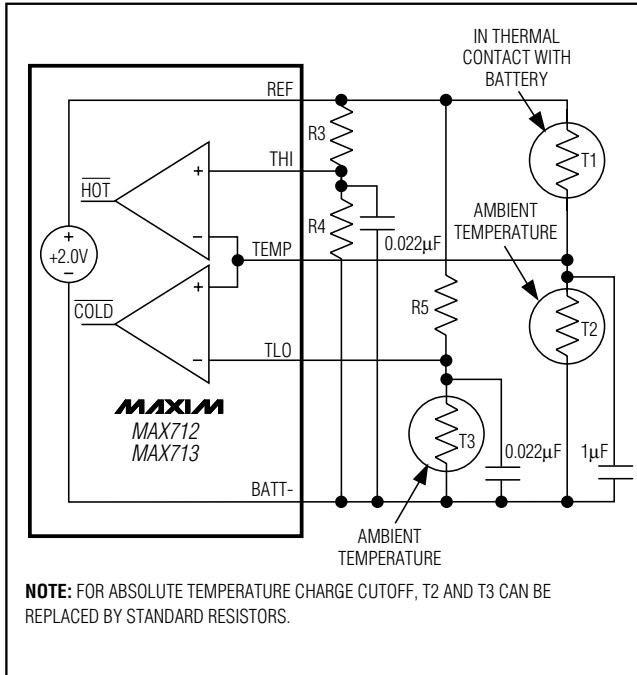
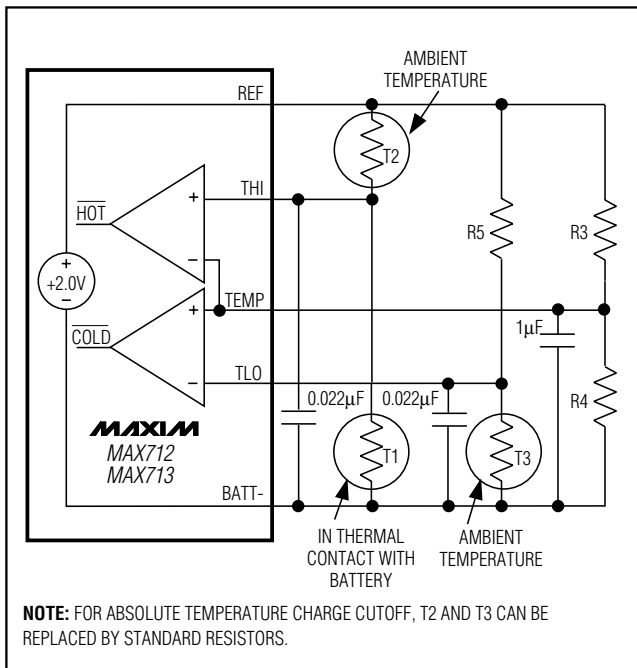
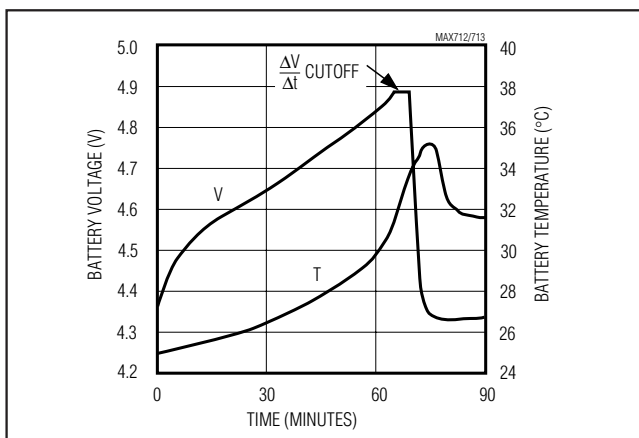

Figure 9a. Temperature Comparators
Figure 9b. Alternative Temperature Comparator Configuration
Figure 13. 3 NiMH Cells Charged with MAX712
Figure 9a shows how the MAX712/MAX713 detect over- and under-temperature battery conditions using negative temperature coefficient thermistors. Use the same model thermistor for T1 and T2 so that both have the same nominal resistance. The voltage at TEMP is 1V (referred to BATT-) when the battery is at ambient temperature.
Some battery packs come with a temperature-detecting thermistor connected to the battery pack's negative terminal. In this case, use the configuration shown in Figure 9b. Thermistors T2 and T3 can be replaced by standard resistors if absolute temperature charge cut-off is acceptable. All resistance values in Figures 9a and 9b should be chosen in the 10kΩ to 500kΩ range.
Figures 13 and 14 show the results of charging 3 AA, 1000mAh, NiMH batteries from Gold Peak (part no. GP1000AAH, GP Batteries (619) 438-2202) at a 1A rate using the MAX712 and MAX713, respectively. The *Typical Operating Circuit* is used with Figure 9a's thermistor configuration.